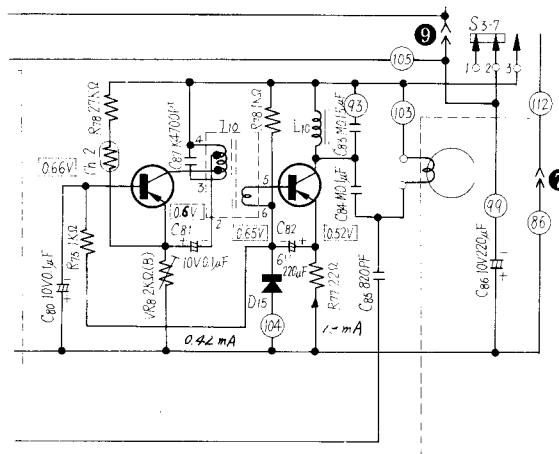

Fig. 36
3. AC Bias Oscillator and Erasing Circuits (Refer to Fig. 36)